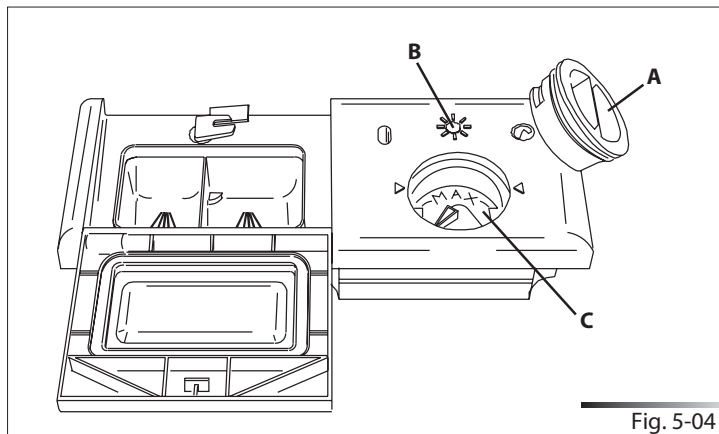

Fig. 5-04
- Rotate the container cover (ref. A fig. 5-04) anticlockwise by $\frac{1}{4}$ of a turn and remove it.
- Add the rinse aid until the container is full (approximately 140 ml). The optical level indicator (ref. B fig. 5-04), on the side of the cap should be completely obscured. Refill the rinse aid when the optical level indicator becomes clear again, or when the rinse aid warning light illuminates (see "Description of controls" manual).
- Replace the cover (ref. A fig. 5-04) by turning it in a clockwise direction until it is fully closed.
The rinse-aid dispenser can be set to one of 6 different levels. The dishwasher is factory set for medium water hardness (selector set to "3"). To change the setting, turn the dispenser selector (ref. c fig. 5-04) to the desired position: the amount of rinse-aid dispensed is proportional to the position of this selector. Make sure that the minimum amount of rinse-aid (selector turned to "1") is approximately 1 ml and the maximum amount (selector turned to "6") is approximately 6 ml.
- To adjust the rinse aid setting, rotate the dispenser cover (ref. A fig. 5-04) through a quarter turn in an anticlockwise direction and remove it.